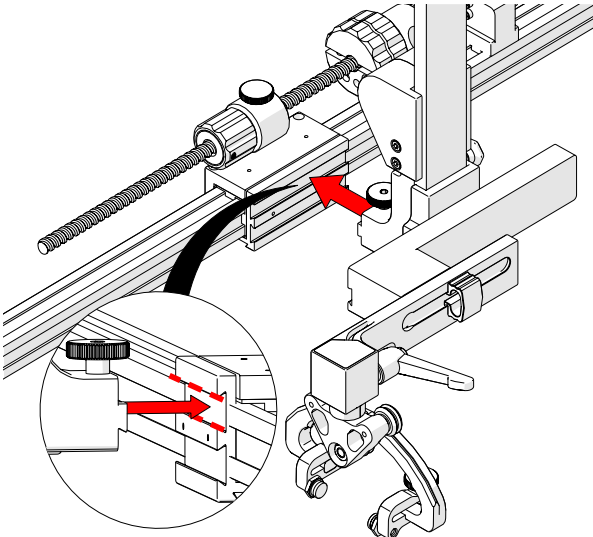

Fig. 226 - Mount to slider pps
2. Loosen the probe holder adjustment knob to attach the encoded skew vertical probe holder to the slider pps slider (Fig. 226).